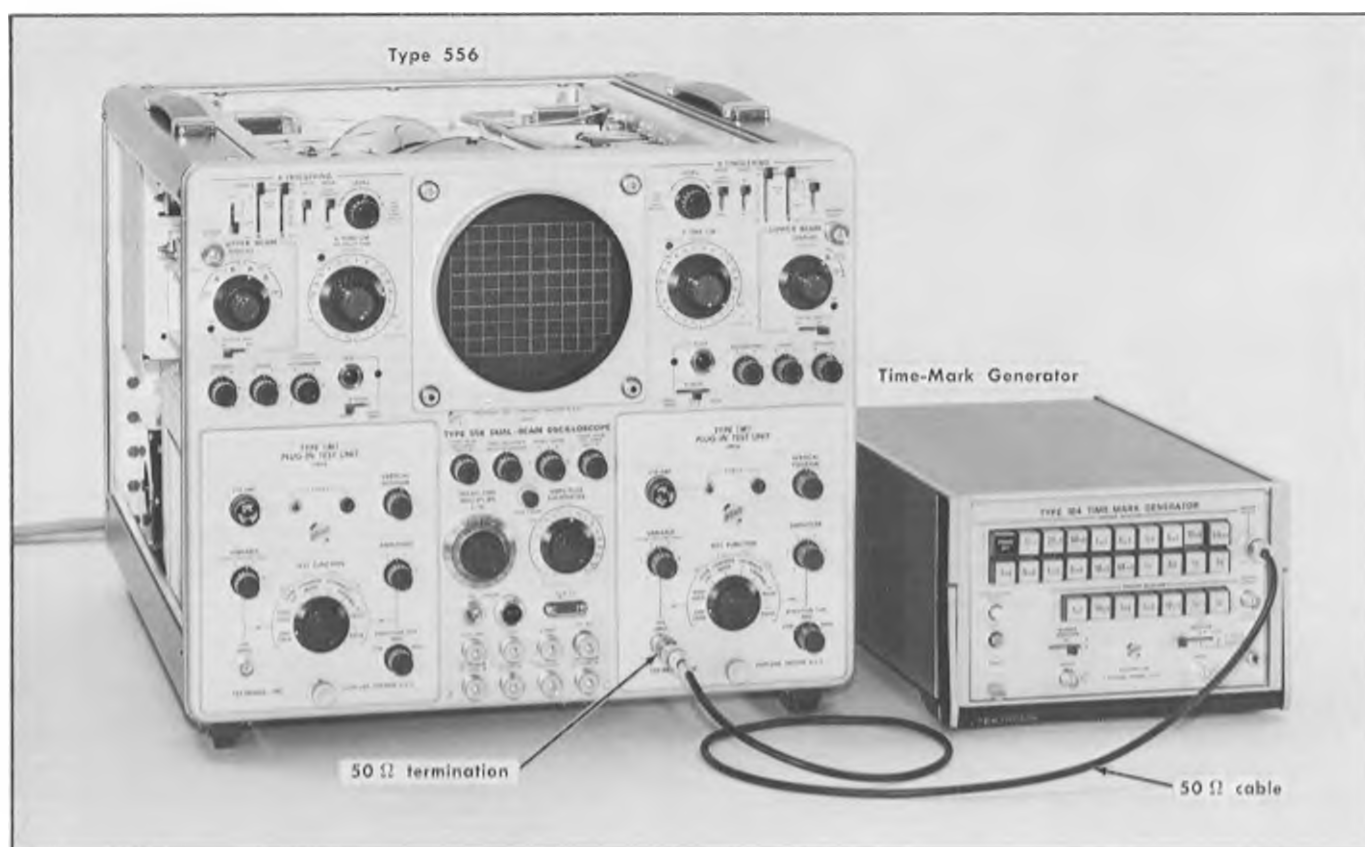

Fig. 6-43. Test setup for Sweep Timing—A and B.
- a. The test setup is shown in Fig. 6-43.